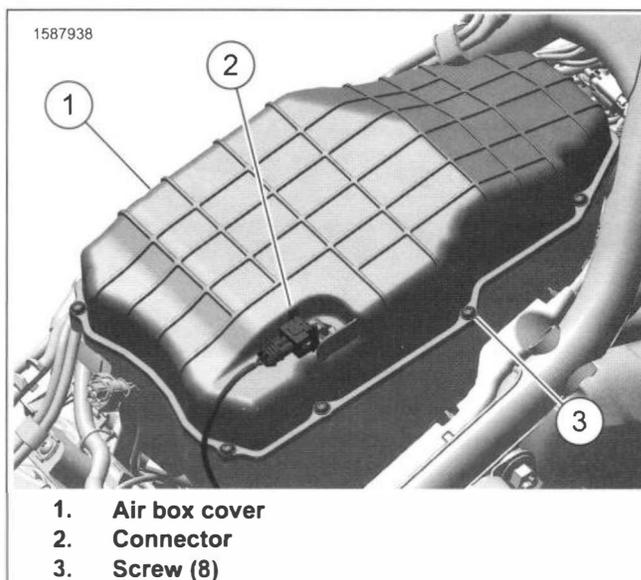
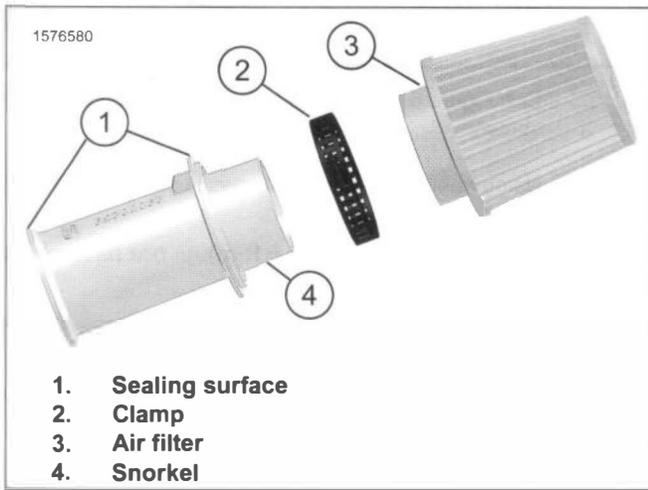
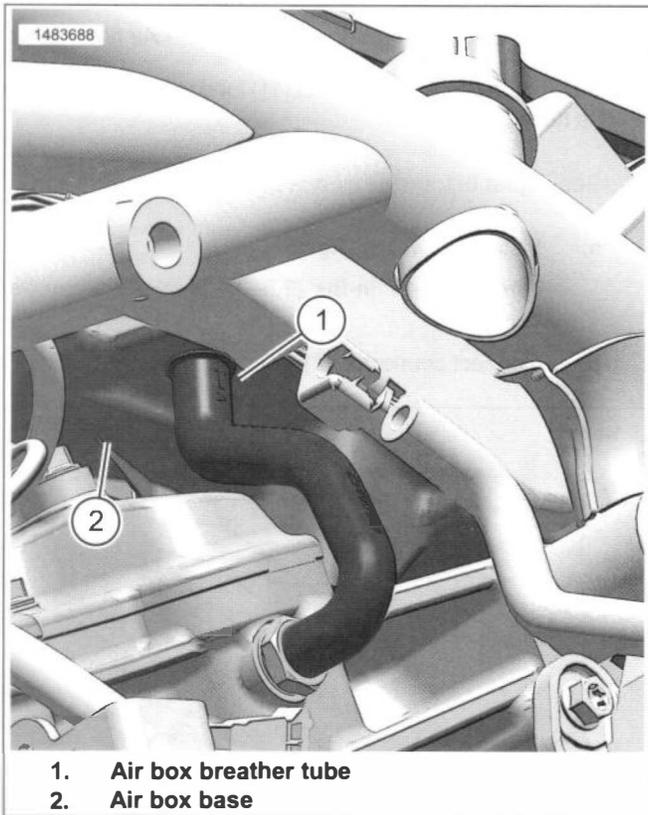
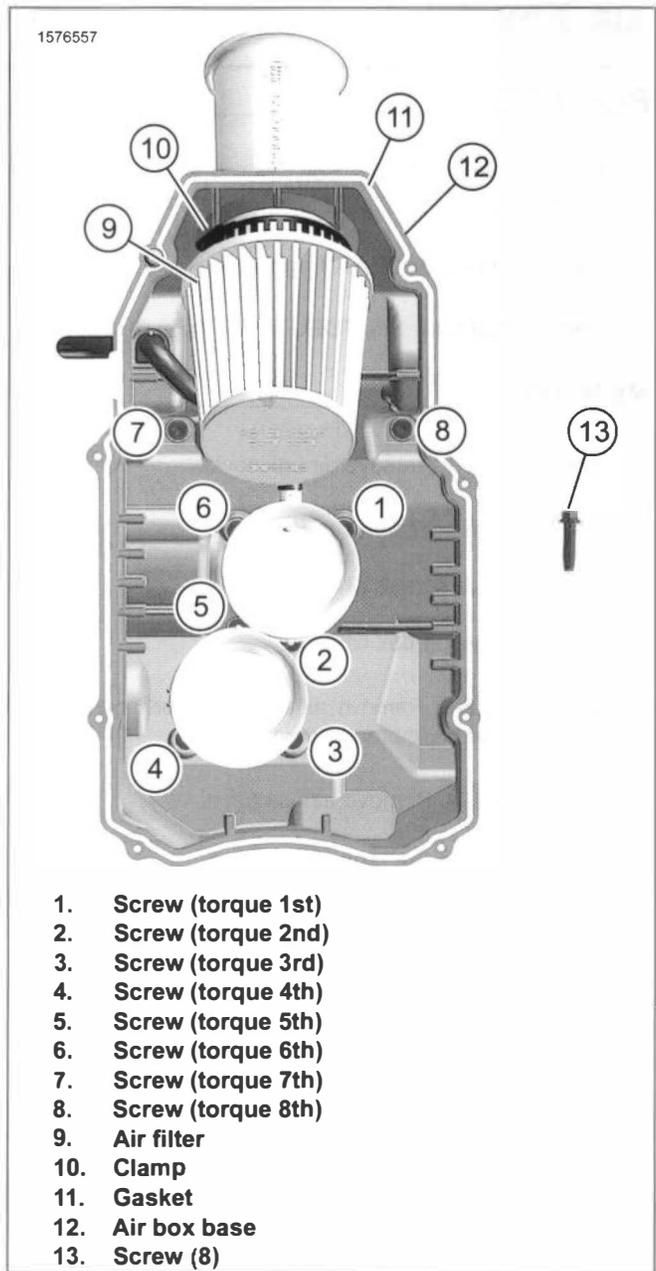

Figure 6-1. Air Box Cover
Figure 6-2. Air Box Snorkel
Figure 6-3. Air Box Breather Tube
Figure 6-4. Air Box Base Torque Sequence
1. See Figure 6-1. Remove air box cover.
- a. Disconnect connector (2).
- b. Remove screws (3).
- c. Remove air box cover (1).
2. See Figure 6-3. Remove air box breather tube (1) from front cylinder head breather bolt.
3. See Figure 6-4. Remove air box base.
- a. Loosen clamp (10).
- b. Remove air filter (9).
- d. Grasp air box base (12) from the rear side, lift 30 degrees. Remove.
1. See Figure 6-2. Thoroughly clean snorkel (4) sealing surfaces (1).
2. Thoroughly clean sealing surface inside of air cleaner (3) to ensure a proper seal.
3. See Figure 6-4. Install air box base.
- a. Install air box base (12). Verify the velocity stacks are properly seated.
- b. See Figure 6-3. Install air box breather tube (1) to front cylinder head breather bolt.
- c. See Figure 6-4. Hand start screws (1-8) in sequence shown.
4. See Figure 6-4. Check gasket (11) for damage and replace as necessary.
5. See Figure 6-1. Install air box cover (1).
- a. Install screws (3). Tighten.